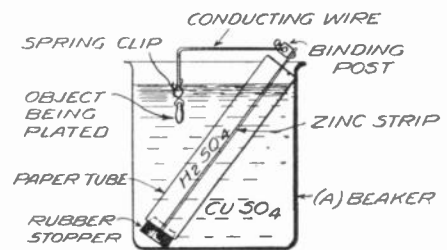

FIG. 3
The vessel (A) (Fig. 3) may be a beaker or other similar glass container.
in Fig. 3. Remember, in mixing acid and water, that the acid should be slowly added to the water. The zinc strip is placed, as shown, in the tube with a copper wire conductor attached.
The object to be plated should be thoroughly cleaned and placed in the clip (B) (Fig. 3). Plating commences as soon as the object is placed in the solution.